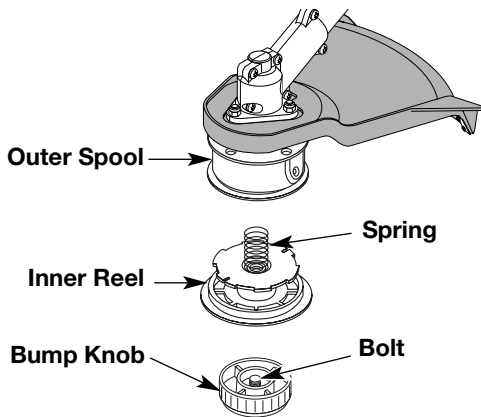

Fig. 12
1. Hold the outer spool with one hand and unscrew the Bump Knob clockwise (Fig. 12). Inspect the bolt inside the Bump Knob to make sure it moves freely. Replace the Bump Knob if damaged.
2. Remove the inner reel from the outer spool (Fig. 12).
3. Remove spring from the inner reel (Fig. 12).
2. Remove the old inner reel from the outer spool (Fig. 12).
3. Remove the spring from the old inner reel (Fig. 12).